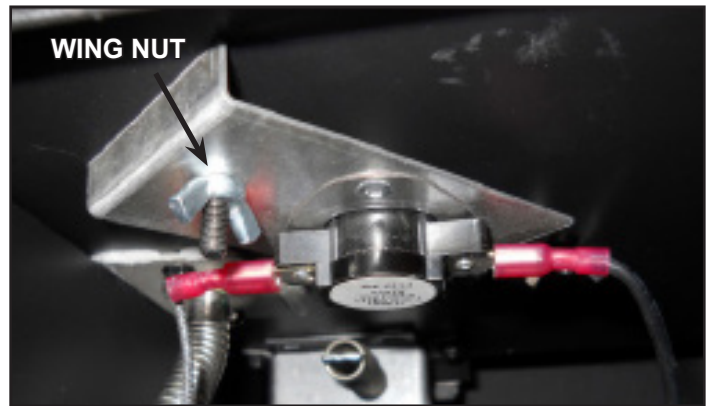

Figure 8.5 - Temperature Sensor Switch Installed
3. Slide temperature sensor switch/bracket assembly onto the 10-32 screw located on the underside of the appliance. Secure the bracket assembly with the wing nut provided, Figure 8.5.